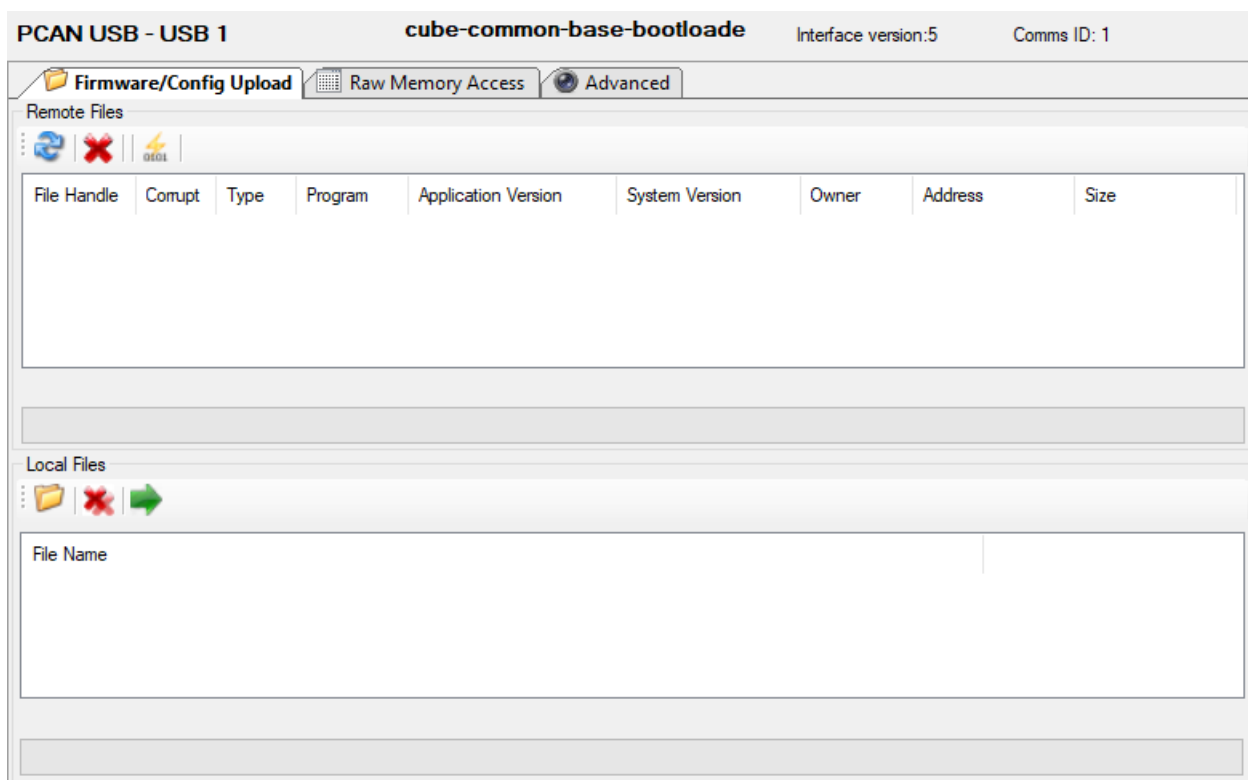

Figure 2: Firmware/Config Upload UI
Navigate to the “Firmware/Config Upload” tab. The user interface (UI) is shown in Figure 2.